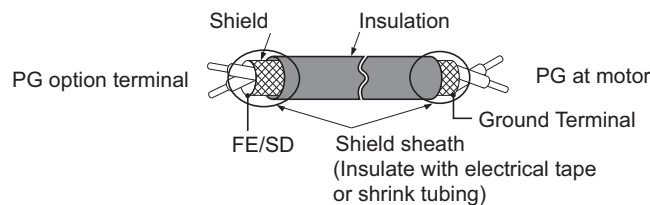
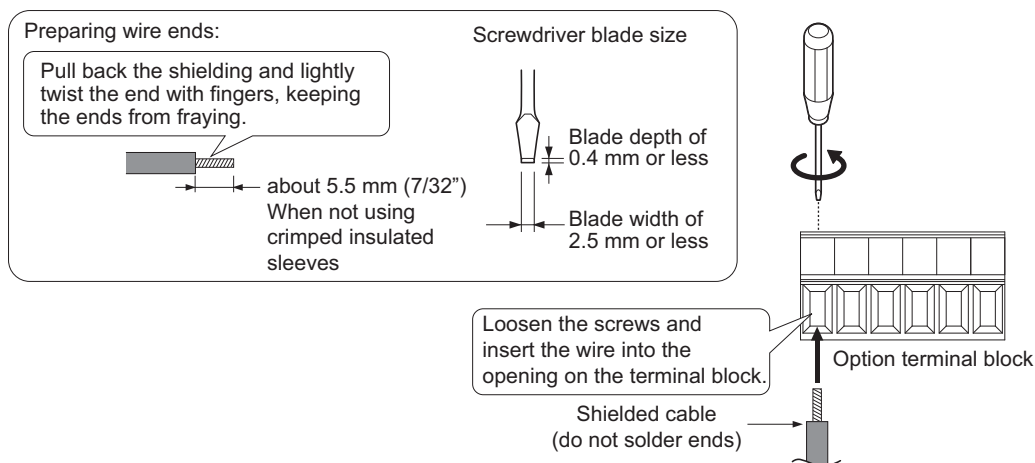

Figure 8.6 Preparing Ends of Shielded Cable
Figure 8.7 Preparing and Connecting Cable Wiring
2. There are two screw holes on the drive for use as ground terminals (I). When connecting three options, two ground wires will need to share the same drive ground terminal.
4. Prepare and connect the wire ends as shown in Figure 8.6 and Figure 8.7. Wire Gauges and Tightening Torques on page 321 to confirm that the proper tightening torque is applied to each terminal. Take particular precaution to ensure that each wire is properly connected and wire insulation is not accidentally pinched into electrical terminals.